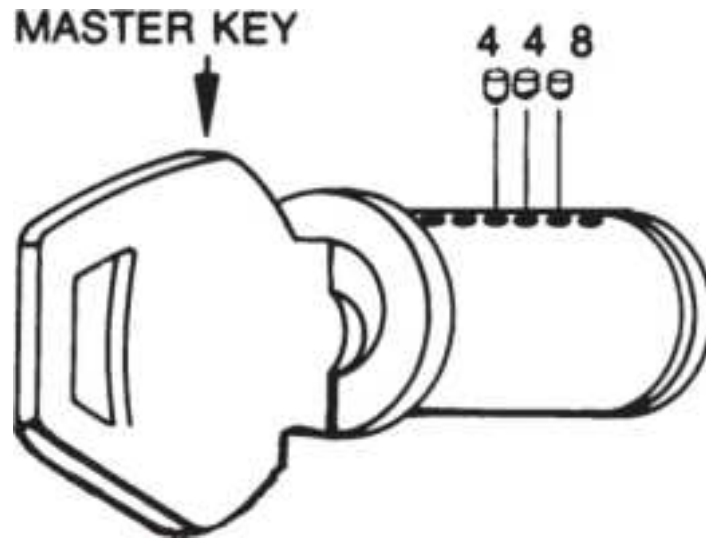

**Figure 9.21** Subtract the change-key combination from the master key combination. The difference represents the length of the master pins. (*Emhart Corp.*)
12. Install the appropriate master pins (Fig. 9.21 ).